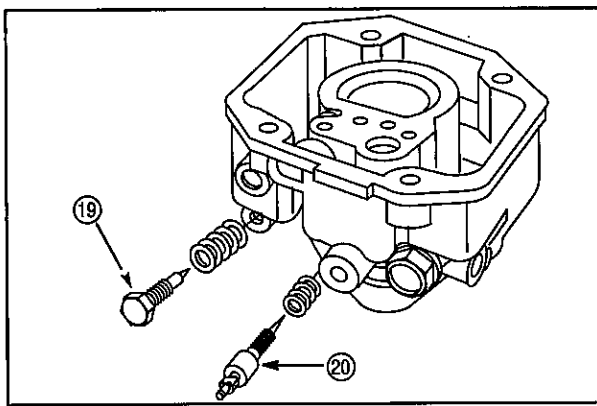

Fig. 110
16. Install bowl drain screw (19) and spring, **Fig. 110**.
17. Install idle mixture screw (20) and spring.